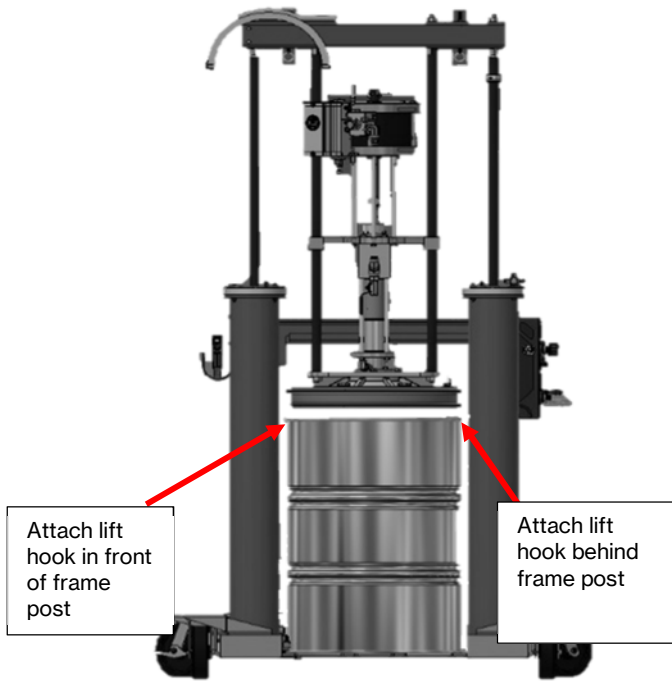

Figure 3. Plunger Stop and Lift Hook Attachment Points
4. Attach lift hooks to the lip of the drum at points directly opposite from each other (180°). Cylinders will be marked with attach point locations (see Figure 3).
12. Attach both lift hooks to the lip of the drum at points directly opposite from each other (180°) at the designated attachment points (see Figure 3).